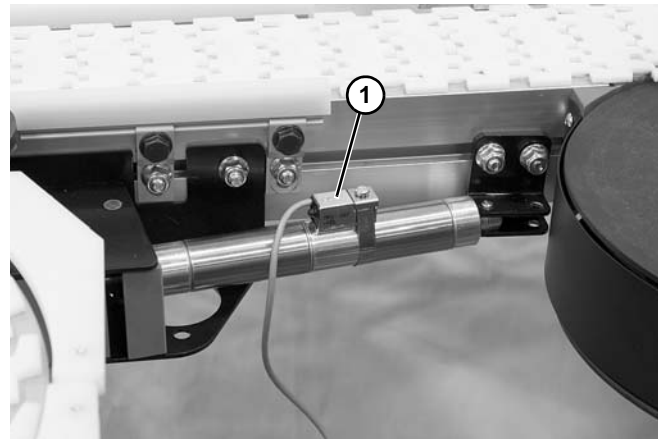

**Figure 39**
- f. Move divert (**Figure 39, item 1**) to desired minimum position and tighten fasteners.